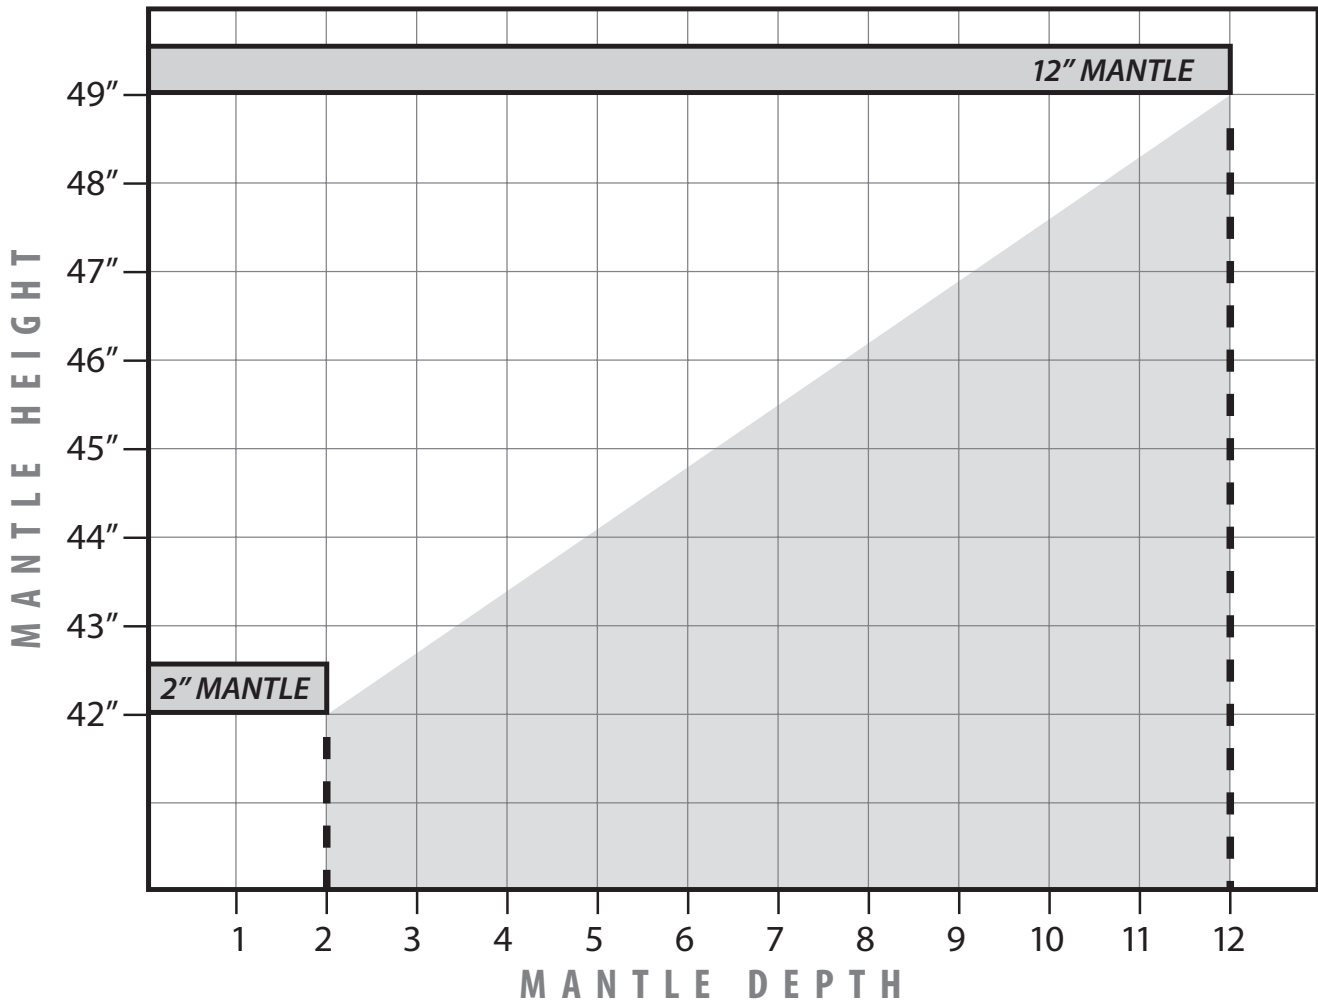

Figure 19. Mantle Clearances
**MANTLE:** It is not necessary to install a mantle, but if one is desired the guidelines as shown in Figure 19. Side mantle clearance should be no less than the distance from the top of the unit to the bottom on the top portion of the mantle.